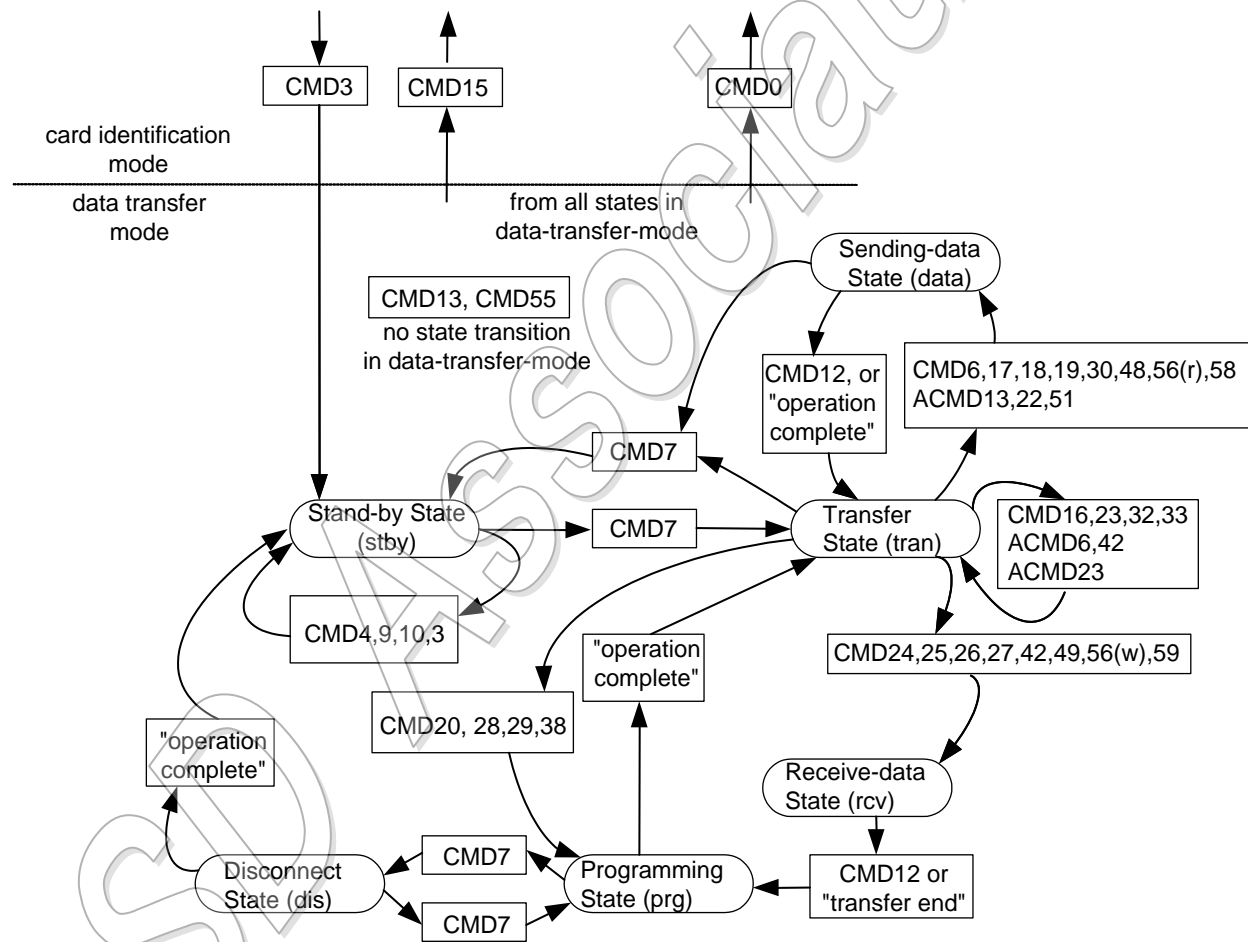

Figure 4-13 : SD Memory Card State Diagram (data transfer mode)
- All data read commands can be aborted any time by the stop command (CMD12). The data transfer will terminate and the card will return to the *Transfer State*. The read commands are such as block read (CMD17), multiple block read (CMD18), send write protect (CMD30), send SCR (ACMD51) and general command in read mode (CMD56). (Refer to Figure 4-13 for more details.)
- All data write commands can be aborted any time by the stop command (CMD12). The write commands shall be stopped prior to deselecting the card by CMD7. The write commands are such as block write (CMD24 and CMD25), program CSD (CMD27), lock/unlock command (CMD42) and general command in write mode (CMD56). (Refer to Figure 4-13 for more details.)
If all write buffers are full, and as long as the card is in *Programming State* (see SD Memory Card state diagram Figure 4-13), the DAT0 line will be kept low (BUSY).